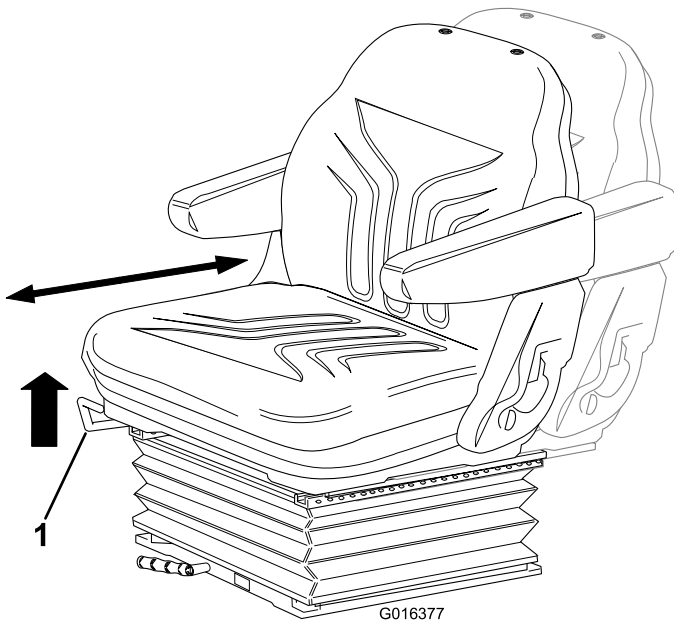

Figure 11
- **.Fore/Aft Adjustment:** Move the lever upwards to adjust the fore/aft position of the seat. Release the lever to lock the seat in position (Figure 11).